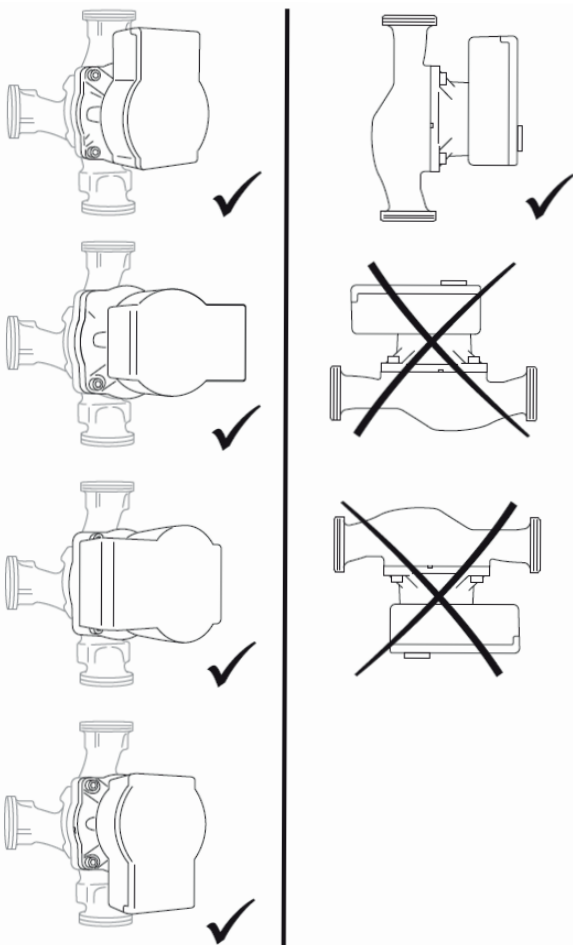

Fig. 6.1:
- Observe the permissible installation position (Fig. 6.1) of the pump.